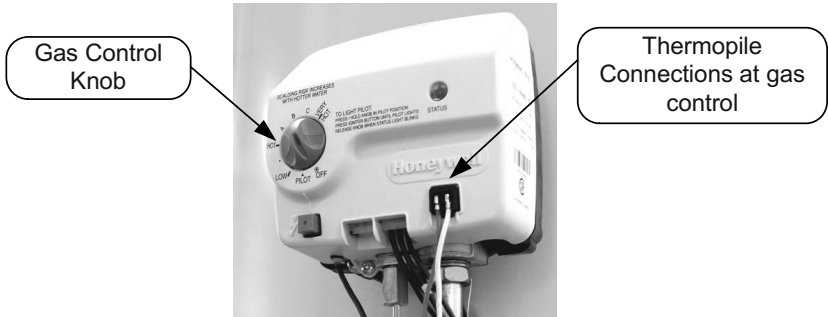

Figure 6
- Step 2. Using a multimeter capable of measuring millivolts, measure across thermopile connections at the gas control (see Figure 6).